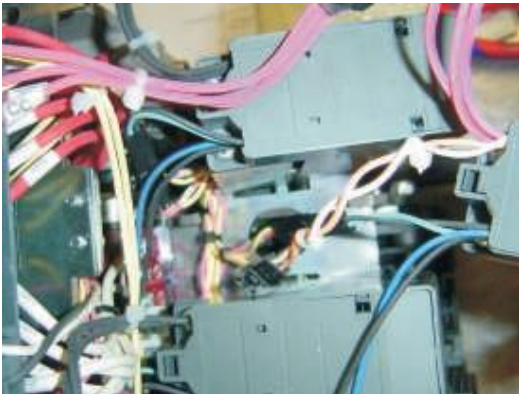

Figure 2. Plug Assembly
4. Place the coil on the mechanism top plate and assemble the connector marked as CCC from the Command closing coil to the connector marked as CCC in the Trip unit harness as shown in Fig. 2.
Figure 2 shows the electrical interconnection between the trip unit and the Command Close Coil accessory. The trip unit must have an auxiliary DC supply to use serial communications functions.